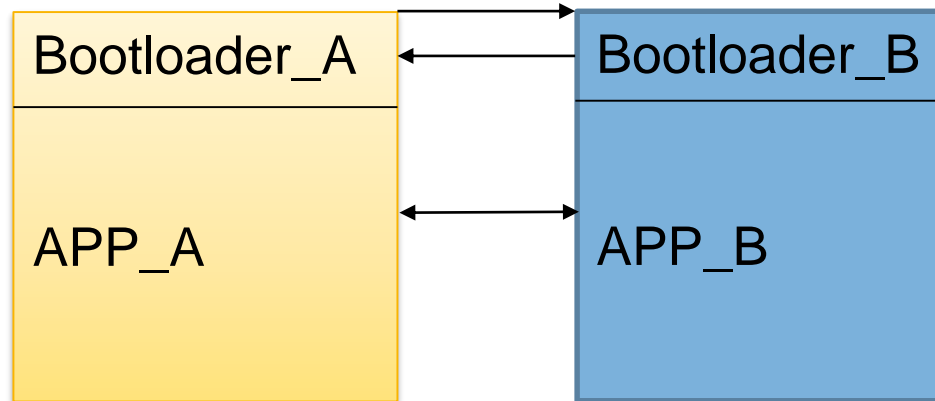

Figure 1
- ✓ Customer OTA solution is bootloader A/B + APP A/B. when update APP through HW registers for swap APP A/B. As figure 1, bootloader A & APP A can update bootloader B & APP B each other.